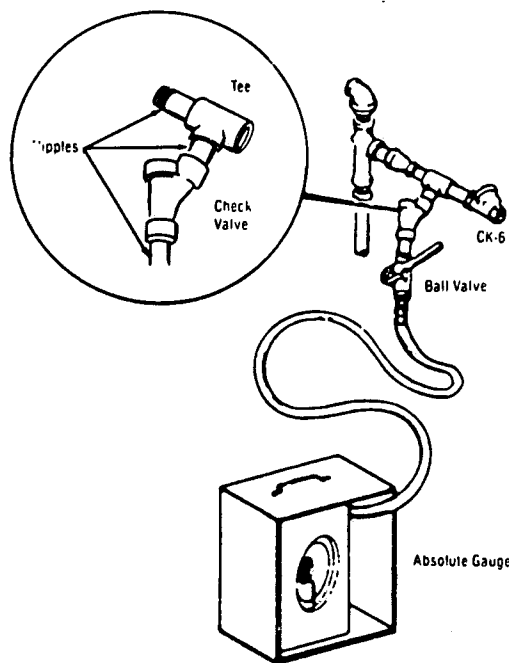

Figure 5-9. EJECTOR VACUUM TEST GAUGE INSTALLATION.
1. Connect ball valve and absolute pressure gauge between ejector and check valve (CK-6). See Figure 5-9.